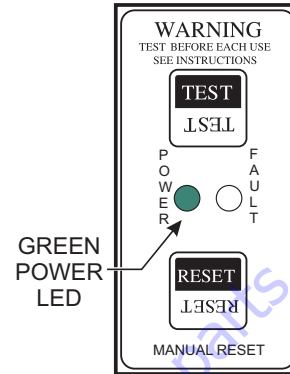

Figure 46. GFCI Module (Green LED ON)
3. On the GFCI module (Figure 46), verify that the **green** POWER LED is **ON**.